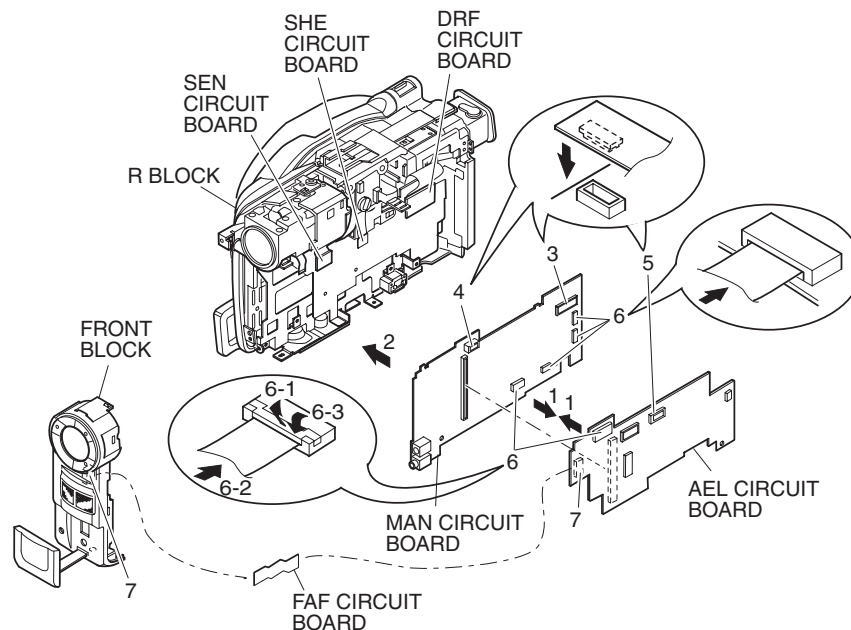

Fig. 4-7-6 Setting to Service Position (B) or (C)
(2) Setting to service position (B) (Fig. 4-7-6)
(3) Setting to service position (C) (Figs. 4-7-6, 4-7-7)
- 1) Connect the MAN and AEL circuit boards. (Fig. 4-7-6)